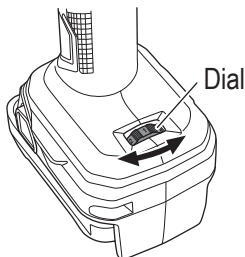

Fig. 14
2. Adjusting operating speed (Fig. 14)